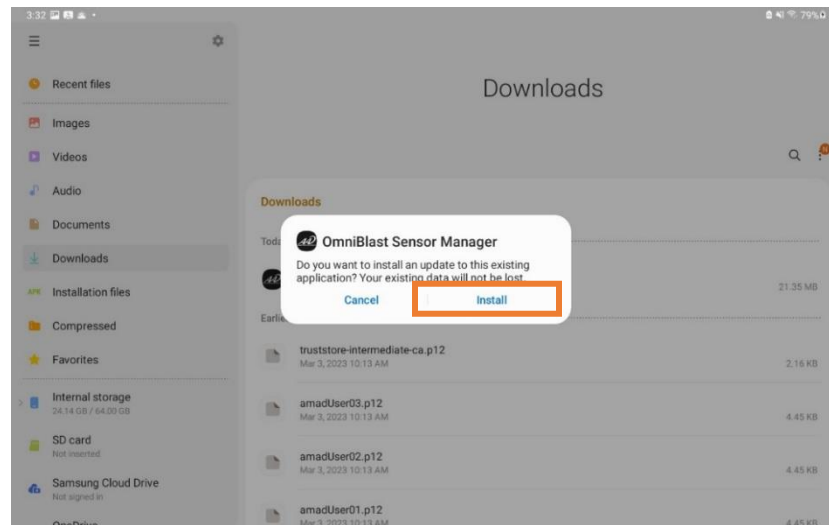

Figure 5. Selecting and installing the OSM .apk from the downloads folder.
- b. On the Android device open the downloads folder and select the OSM_version1.0.0.apk. After selecting the file, a prompt to download the OSM will appear. Click Install. (**Figure 5**). *Note: A prompt that says it won't download because of an untrusted source may appear. Click more options and "install anyway" if this is accepted.*